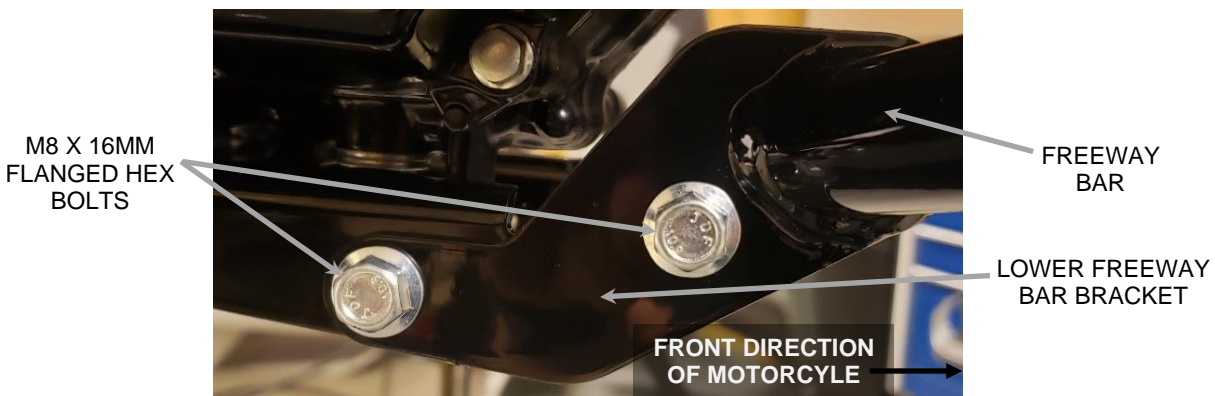

FIGURE 4
6. Slide the lower freeway bar brackets over the outside of lower engine mounting bracket and align the holes. Then insert (4) of the provided M8 x 16mm flanged hex bolts through the holes in the freeway bar mounting bracket and into the threaded bosses on in the engine mounting bracket. See **Figure 4**. Snug the bolts but do not tighten at this time.